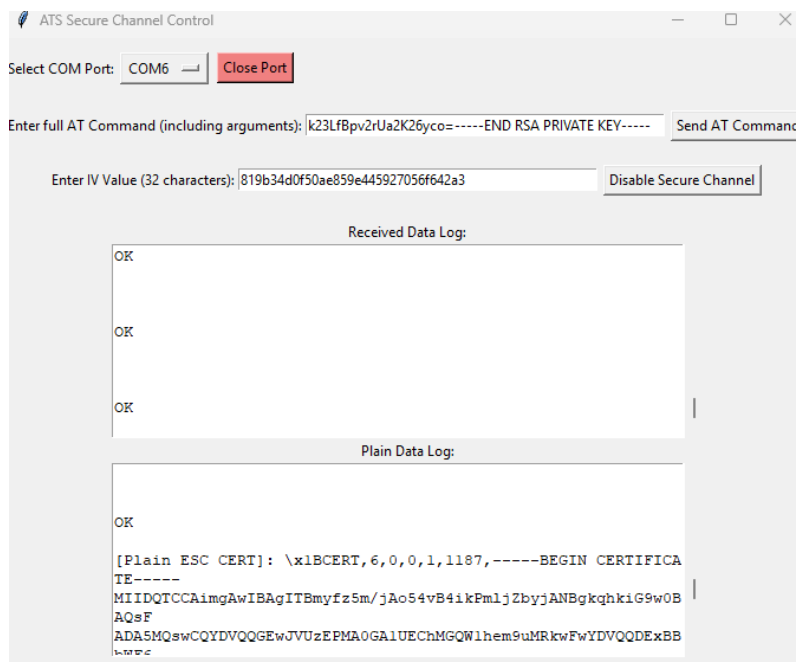

Figure 63. Esc Cert command over AT Secure
2. In the ATS Secure Channel Control GUI, copy the command to the **Enter full AT Command (including arguments)** field, and then click **Send AT Command**. You should see "OK" under **Received Data Log**, as well as see the actual **Plain Data Log**, as shown in Figure 63.